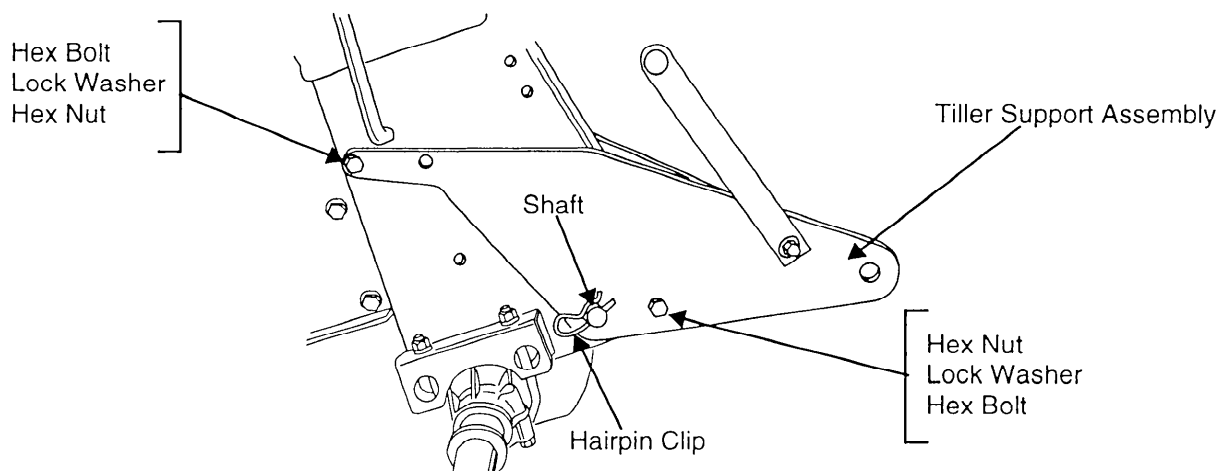

Figure 3
- Place the left plate of the tiller support assembly in position on the rear left hand side of tractor. See Figure 3. Place large hole in pivot bracket over shaft on tractor. Secure with on hairpin clip removed earlier. Slide shaft to the left and rotate the right plate of the tiller support assembly up until the large hole in the plate is aligned with the shaft. Push the shaft to the right, through the hole. Secure with the second hairpin clip earlier removed.
- Align the holes in the support pivot bracket with the holes in the tractor frame. Secure the support pivot bracket to the tractor frame with hex bolts (E), lock washers (F) and hex nuts (G) as shown in Figure 3.